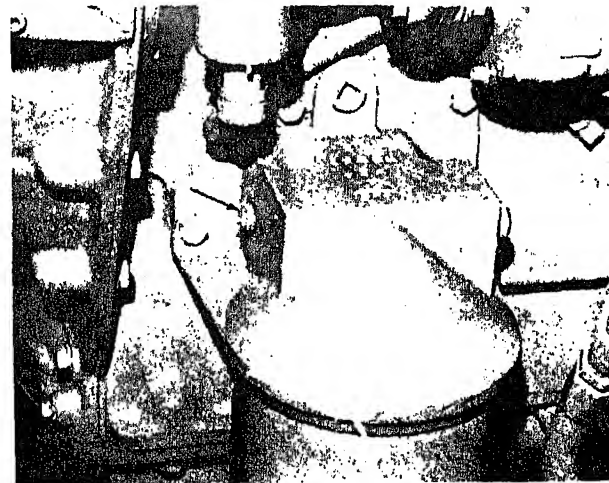

Fig. 14-2-2. Lubricating system priming point with paper element filter
- b. When engine with "paper element" full-flow lubricating oil filter is used, priming point is as indicated in Fig. 14-2-2.